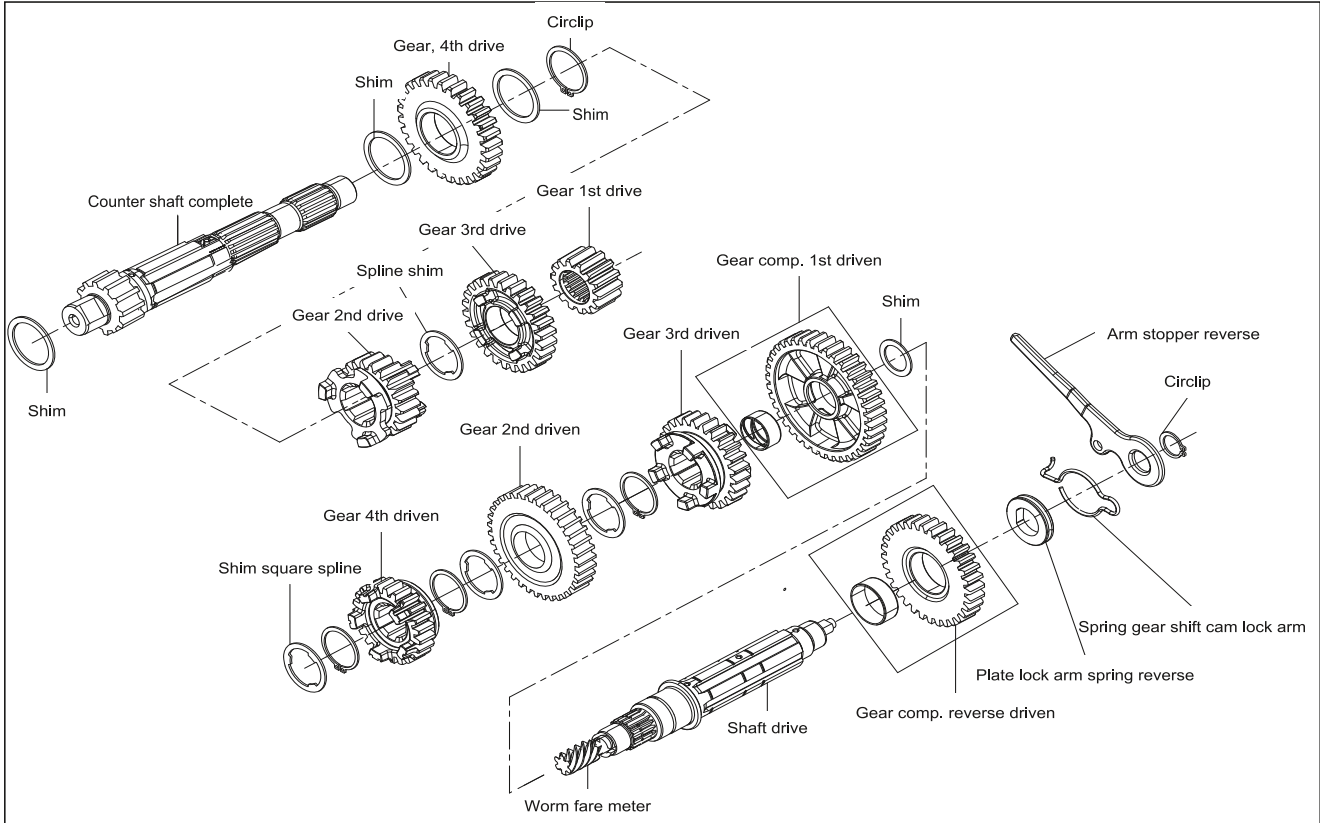

Fig. 3.88
- Take out the gear 3rd drive from counter shaft complete. (Fig. 3.88)
- Take out the gear 2nd drive from counter shaft complete. This gear has the collar for fork gear shift high speed. (Fig. 3.88)
- Take out the gear 4th drive from counter shaft complete. (Fig. 3.88)
- Take out the shim. (Fig. 3.88)
- Take out the gear 1st driven from shaft drive. (Fig. 3.88)
- Take out the gear 3rd driven from shaft drive. This gear has the collar for fork gear shift low speed. (Fig. 3.88)
- Take out the gear 2nd driven from shaft drive. (Fig. 3.88)
- Take out gear 4th driven from shaft drive. This gear has the collar for fork gear shift reverse. (Fig. 3.88)
- Take out the gear complete reverse driven from shaft drive. (Fig. 3.88)